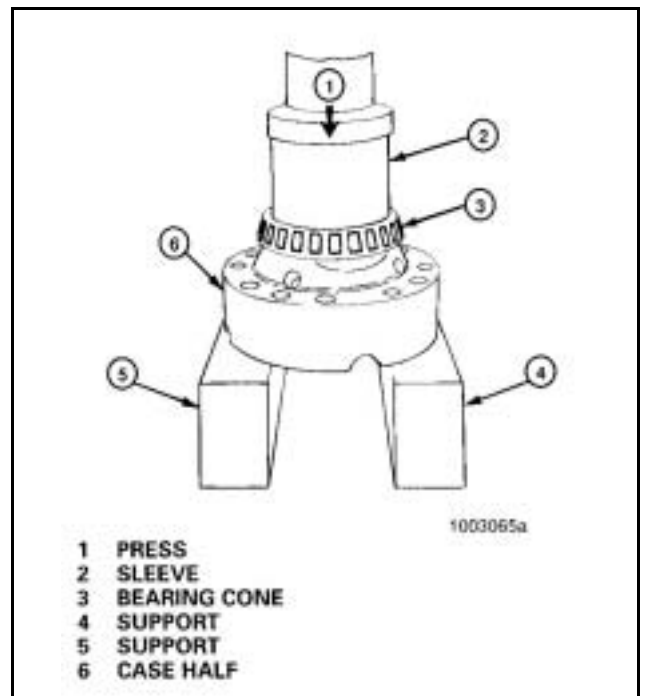

Figure 87
8. Install the bearing cones on both of the case halves. Use a press and sleeve of the correct size. **Figure 87.**